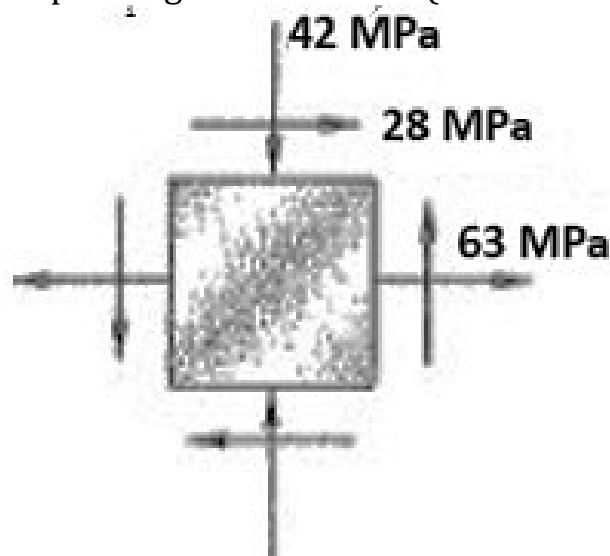

Fig. 3
4. For the given state of stress shown in Fig. 3, determine (i) principal planes (ii) principal stresses (iii) orientation of planes of maximum in-plane shearing stress (iv) corresponding normal stress. (solve it using method of equilibrium)